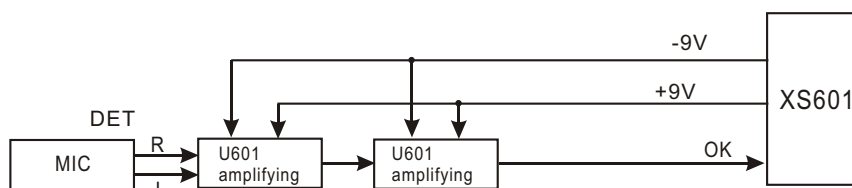

Figure 3.2.14.1 MIC circuit block diagram
1. MIC circuit block diagram is shown in the figure 3.2.14.1: